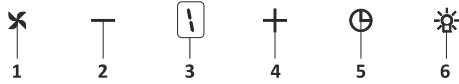

Fig. 19: 5 Spd Dig Button
1. Press this button to turn on the product. Fig. 19
2. Press this button to decrease the motor speed. Fig. 19
3. Dig display You can follow which speed the product is currently working on this display. Fig. 19
4. Press this button to increase the motor speed. Fig. 19
5. When timer button is pressed, a 15-minute timer function will be activated; display will give a signal once the timer starts and the motor will stop automatically after 15 minutes. Fig. 19
6. Press this button to turn on and off the lamp. Fig. 19